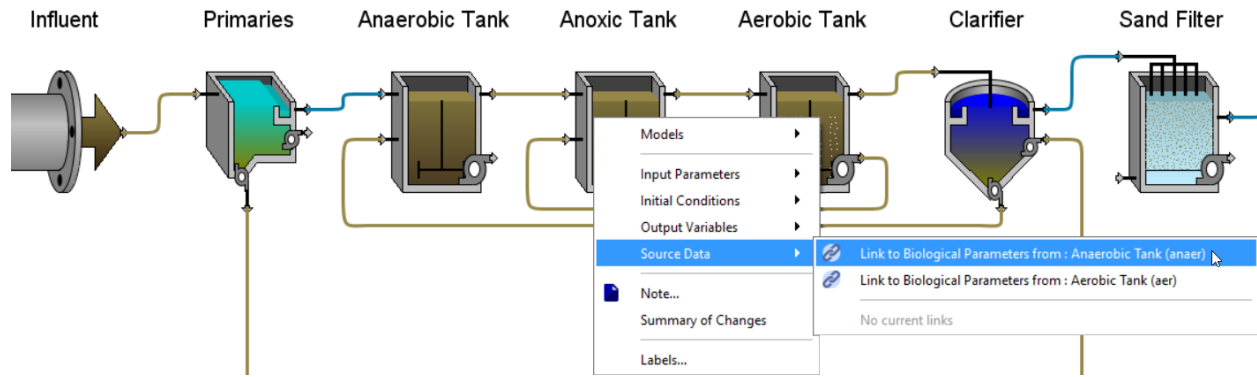

Figure 4-16 – Example Layout showing Source Data menu
2. **Highlight the *Source Data* option (Figure 4-16).** If that option is disabled (greyed out) then that means that there are no potential data sources (ie. parents) currently on the layout.